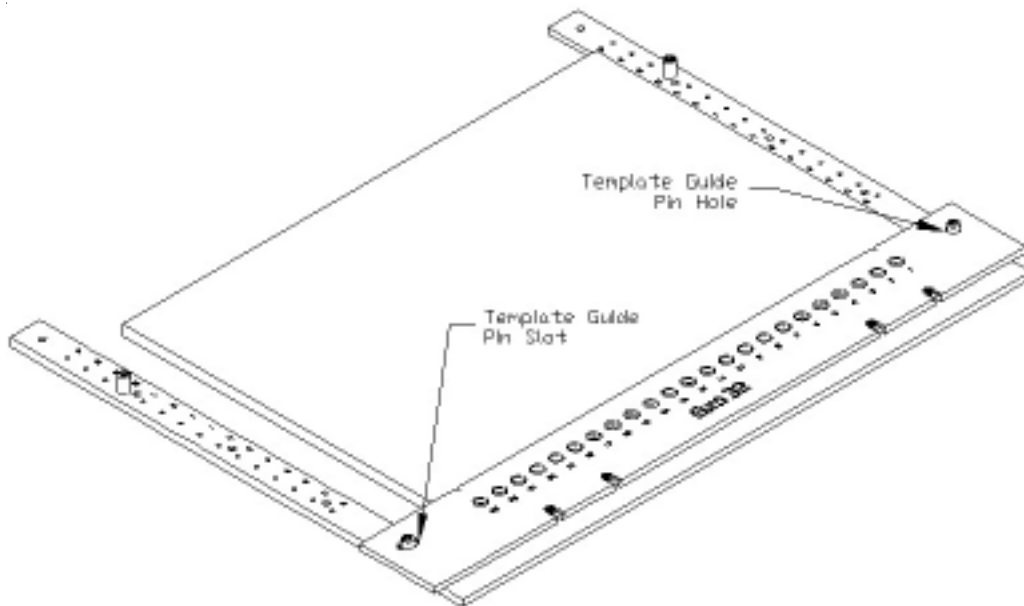

Figure 27
5. Place the hole-boring template with the guide-hole over the right guide-pin in position "A" and the slotted hole over the left guide-pin in position "A" as shown in Figure 27.